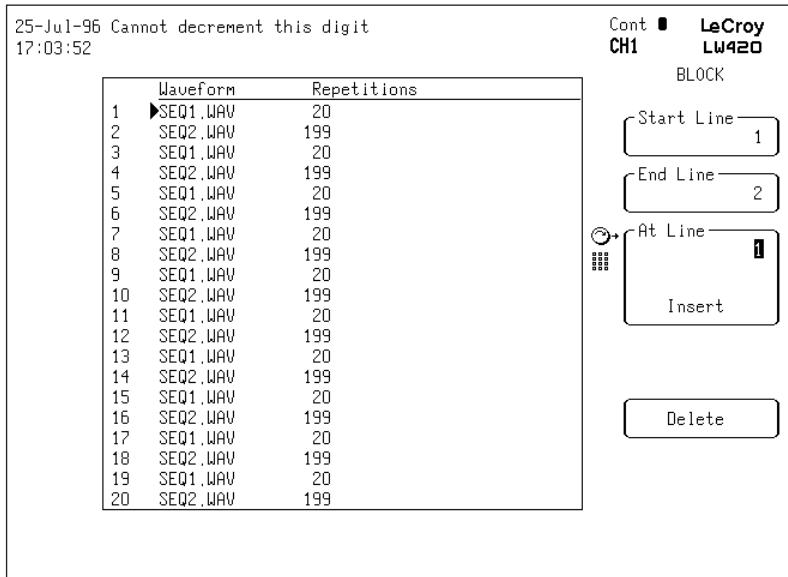

Figure 7.6
- 6. This pattern will be repeated a total of 24 times. Continue the entry until all 24 cycles, a total of 48 sequence editor entries, of the waveform are included, as shown in figure 7.6.